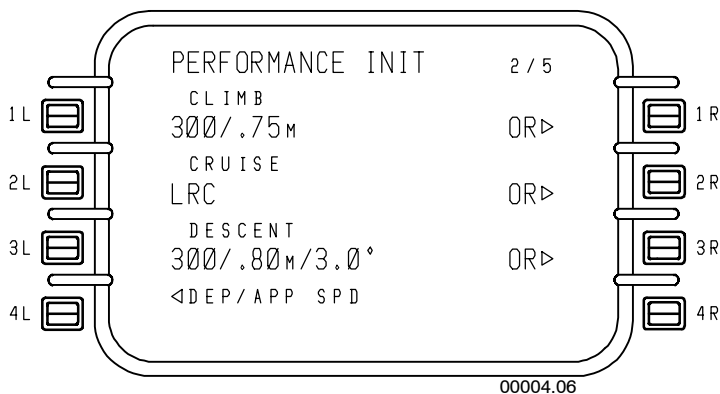

Figure 5-9
- **PERFORMANCE INIT 2/5** – Figure 5-9 is used to set the speed schedules for climb, cruise, descent, departure, and arrival. It is also used to set the default descent angle. In FULL PERF and PILOT SPD/FF, these speed schedules are used for making groundspeed predictions. In the CURRENT GS/FF mode, the groundspeed predictions are unaffected by the speed schedules. The active FMS speed command, used by the flight director and autothrottle, uses the appropriate speed schedule based on the phase of flight.